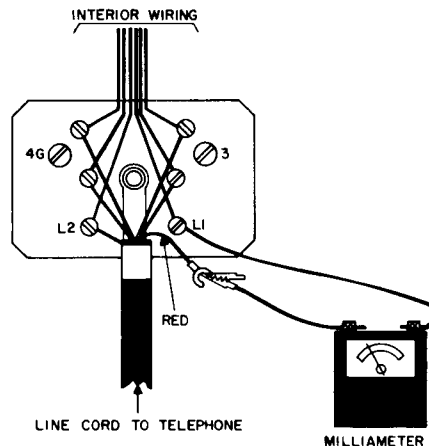

Figure 15. Line current testing at the subscribers premises.
4.5.1 To make the adjustment without assistance from the central-office, loosen the terminal block cover screw, remove the cover, and disconnect the red line cord lead. Connect a milliammeter between the red lead and the terminal block terminal L1 so that the milliammeter is in series with the line. Refer to figure 15. Take the handset off the cradle and vary the loop compensator until the milliammeter reads 60 milliamperes. Disconnect the milliammeter and reconnect the red line cord lead to the terminal block terminal L1. Make certain that the tie-cord clip ring is still in place and replace the terminal block cover. Finally, test the transmission.